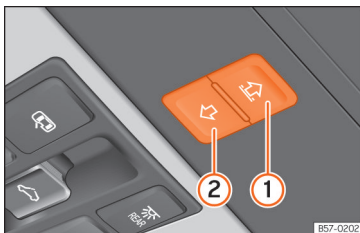

Fig. 65 On the interior roof lining: function button to operate the sun blind.
- If it still cannot be closed, within 5 seconds press the button >>> Fig. 65 ② until the blind closes fully. **The blind closes without the intervention of the anti-trap function!**